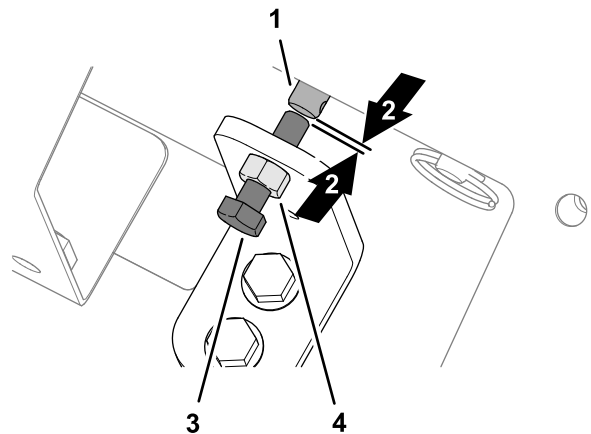

Figure 33
1. Loosen the jam nut at the manual-override bracket (Figure 33).
2. Rotate the hex-head screw for the valve override counter clockwise until you see a small gap between the end of the screw and the end of the stem of the floor-speed solenoid (Figure 33).
3. Tighten the jam nut (Figure 33).